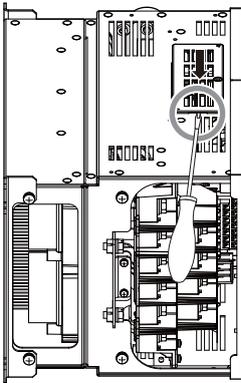

Figure 15 Removing the Connector Cover
- Insert the blade of a straight-edge screwdriver into the opening shown in Figure 15. Pull on the connector cover in the direction indicated by the arrow in Figure 15 and remove it from the drive.